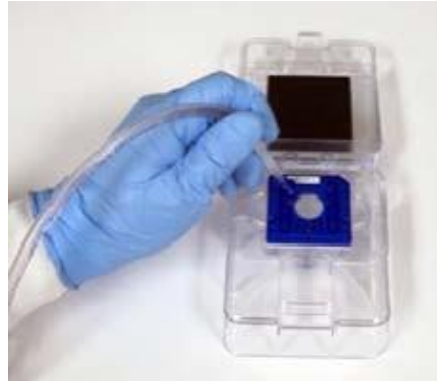

Figure 1. Aspirate Chip wells with Vacuum
- 2 Use a pipette tip attached to a vacuum line to thoroughly aspirate all fluid from the chip wells (see Figure 1). For details on how to set up a vacuum line, see Chip Well Aspiration Using a Vacuum. Using a vacuum to aspirate the chip wells is more effective than using a pipette.